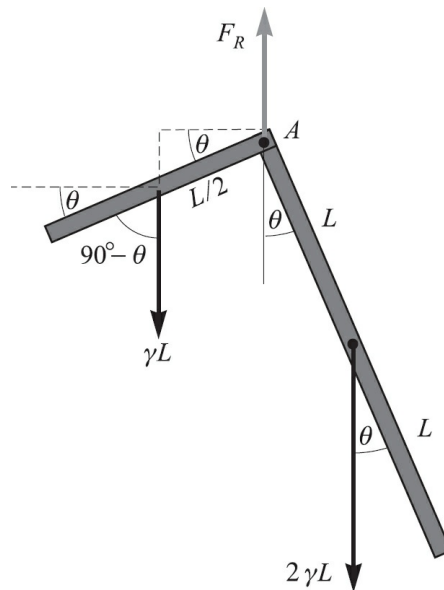

Fig. 5-7
5.6 [III] The right-angle rule (or square) depicted in Fig. 5-7 hangs at rest from a peg as shown. It is made of a uniform metal sheet. One arm is $L \text{ cm}$ long, while the other is $2L \text{ cm}$ long. Find (to two significant figures) the angle θ at which it will hang.
If the rule is not too wide, we can approximate it as two thin rods of lengths L and $2L$ joined perpendicularly at A . Let γ be the weight of each centimeter of rule. The forces acting are indicated in Fig. 5-7, where F_R is the upward reaction force of the peg.